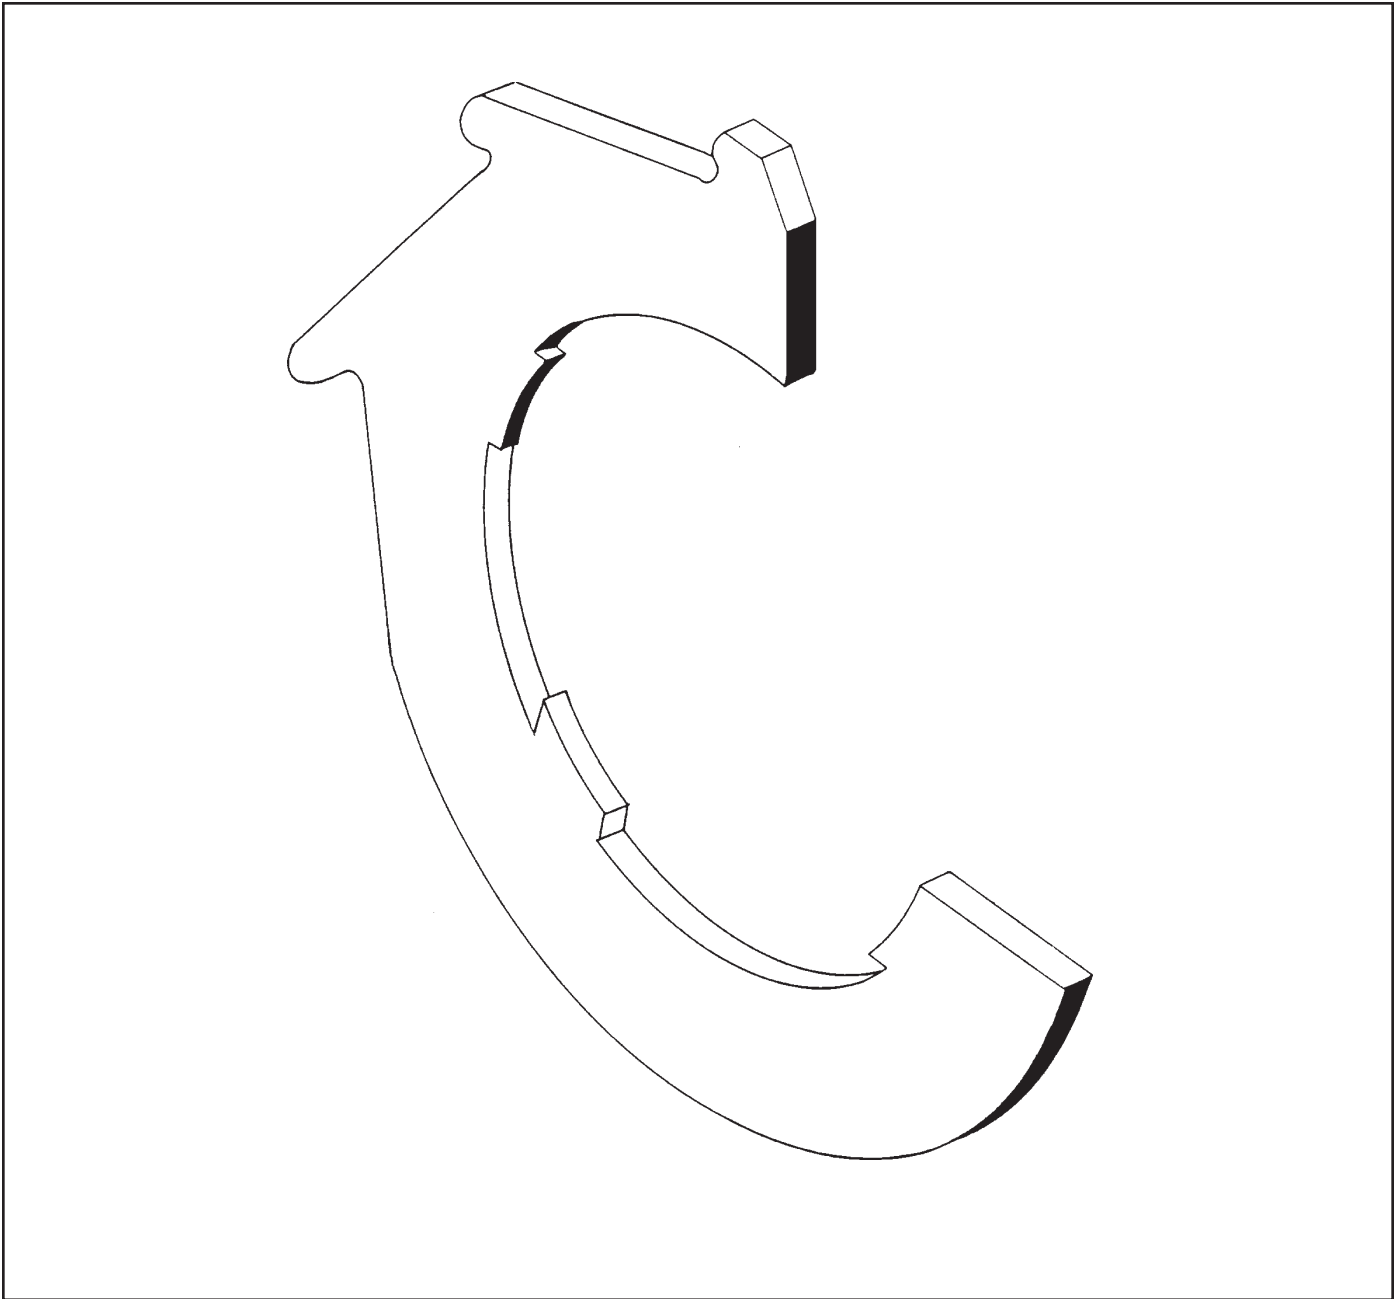

Figure 1 - Spanner Wrench
2. Grease and install the outer seal, o-ring and bearing cone onto the swivel tube (items 8, 9 & 10).
3. Screw on the first lock nut (item 11) with the bevel facing out. Use the spanner wrench supplied with the machine (see Figure 1).